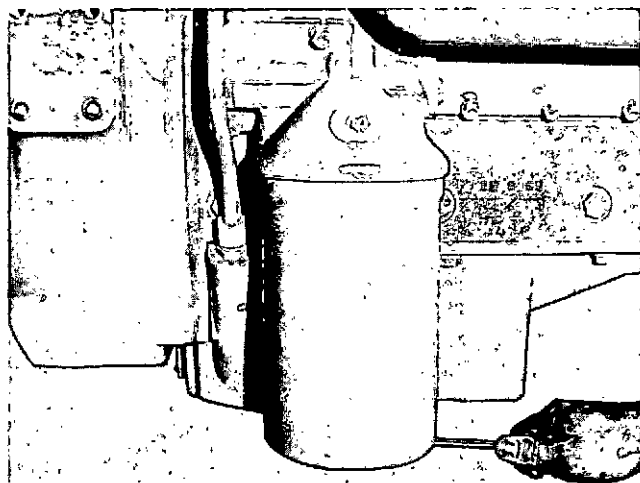

Fig. 5-4, V11904. Removing full-flow lubricating oil filter case
1. Loosen and completely unscrew center capscrew and remove filter case from filter head, Fig. 5-4.